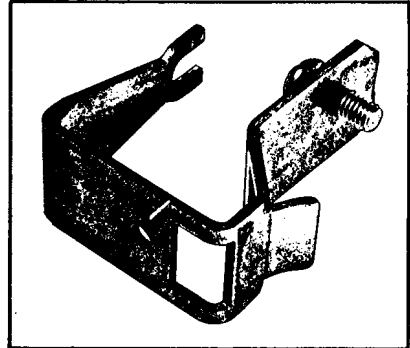

FIGURE 1. 72A Bracket
5.01 Preferably, the 123 type protector should be installed directly on an acceptable metallic cold water pipe by means of a 72A bracket (see Figure 1) and a station ground wire clamp. The 123 type